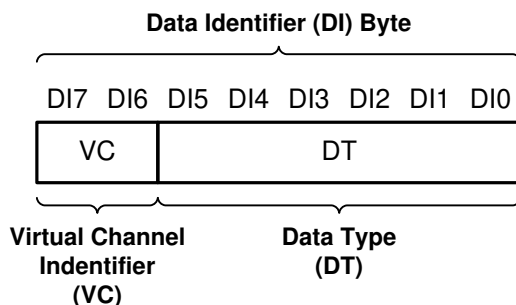

FIG 7-11. CSI-2 Data Identifier Structure
The DS90UB936-Q1 MIPI CSI-2 protocol interface transmits the data identifier byte containing the values for the virtual channel ID (VC) and data type (DT) for the application specific payload data, as shown in Figure 7-11. The virtual channel ID is contained in the 2 MSBs of the data identifier byte and identify the data as directed to one of four virtual channels. The value of the data type is contained in the six LSBs of the data identifier byte. When partnered with a DS90UB935-Q1 serializer, the Data Type is passed through from the received CSI-2 packets. When partnered with DS90UB933-Q1 or DS90UB913A-Q1 the received RAW mode data is converted to CSI-2 Tx packets with assigned data type and virtual channel ID and matches what is sent by the video source.